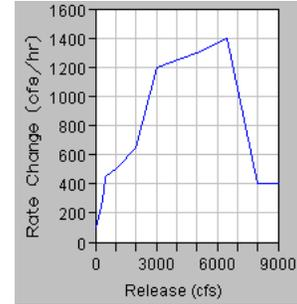

Figure 11.40 Linear Interpolation Method
- **Linear Interpolation** (Figure 11.40) means the table describes a curve drawn with straight lines. Values between those values entered in the table are linearly interpolated.